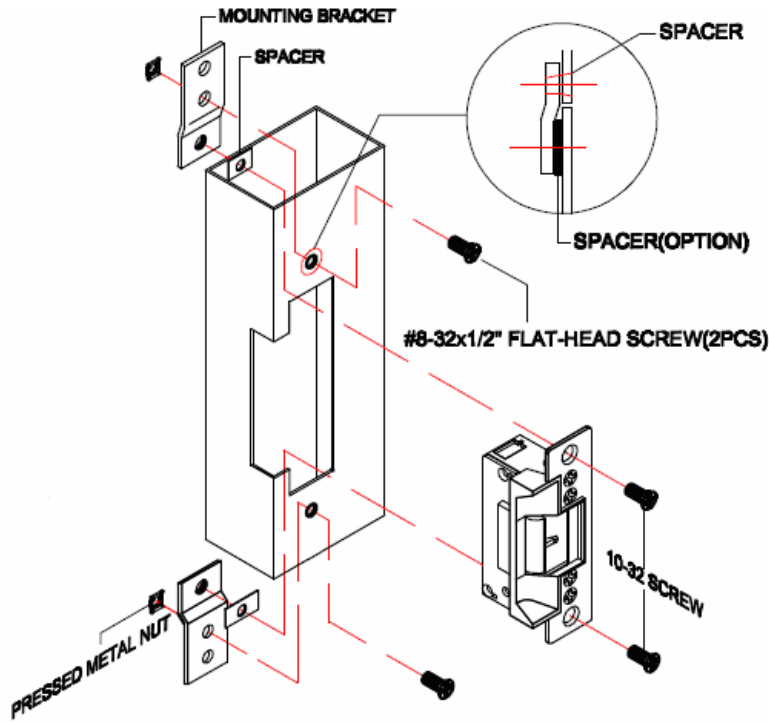

Figure 2
2. Install the mounting brackets to the doorjamb by using the #8-32 x 1/2" flat-head screws and the pressed metal nuts (Figure 2). Do not tighten yet.
5. Install the electric strike to the doorjamb by using the #10-32 screws and the lock washers (Figure 2).
6. Tighten the #8-32 flat-head screws to hold the mounting brackets to the doorjamb (Figure 2).